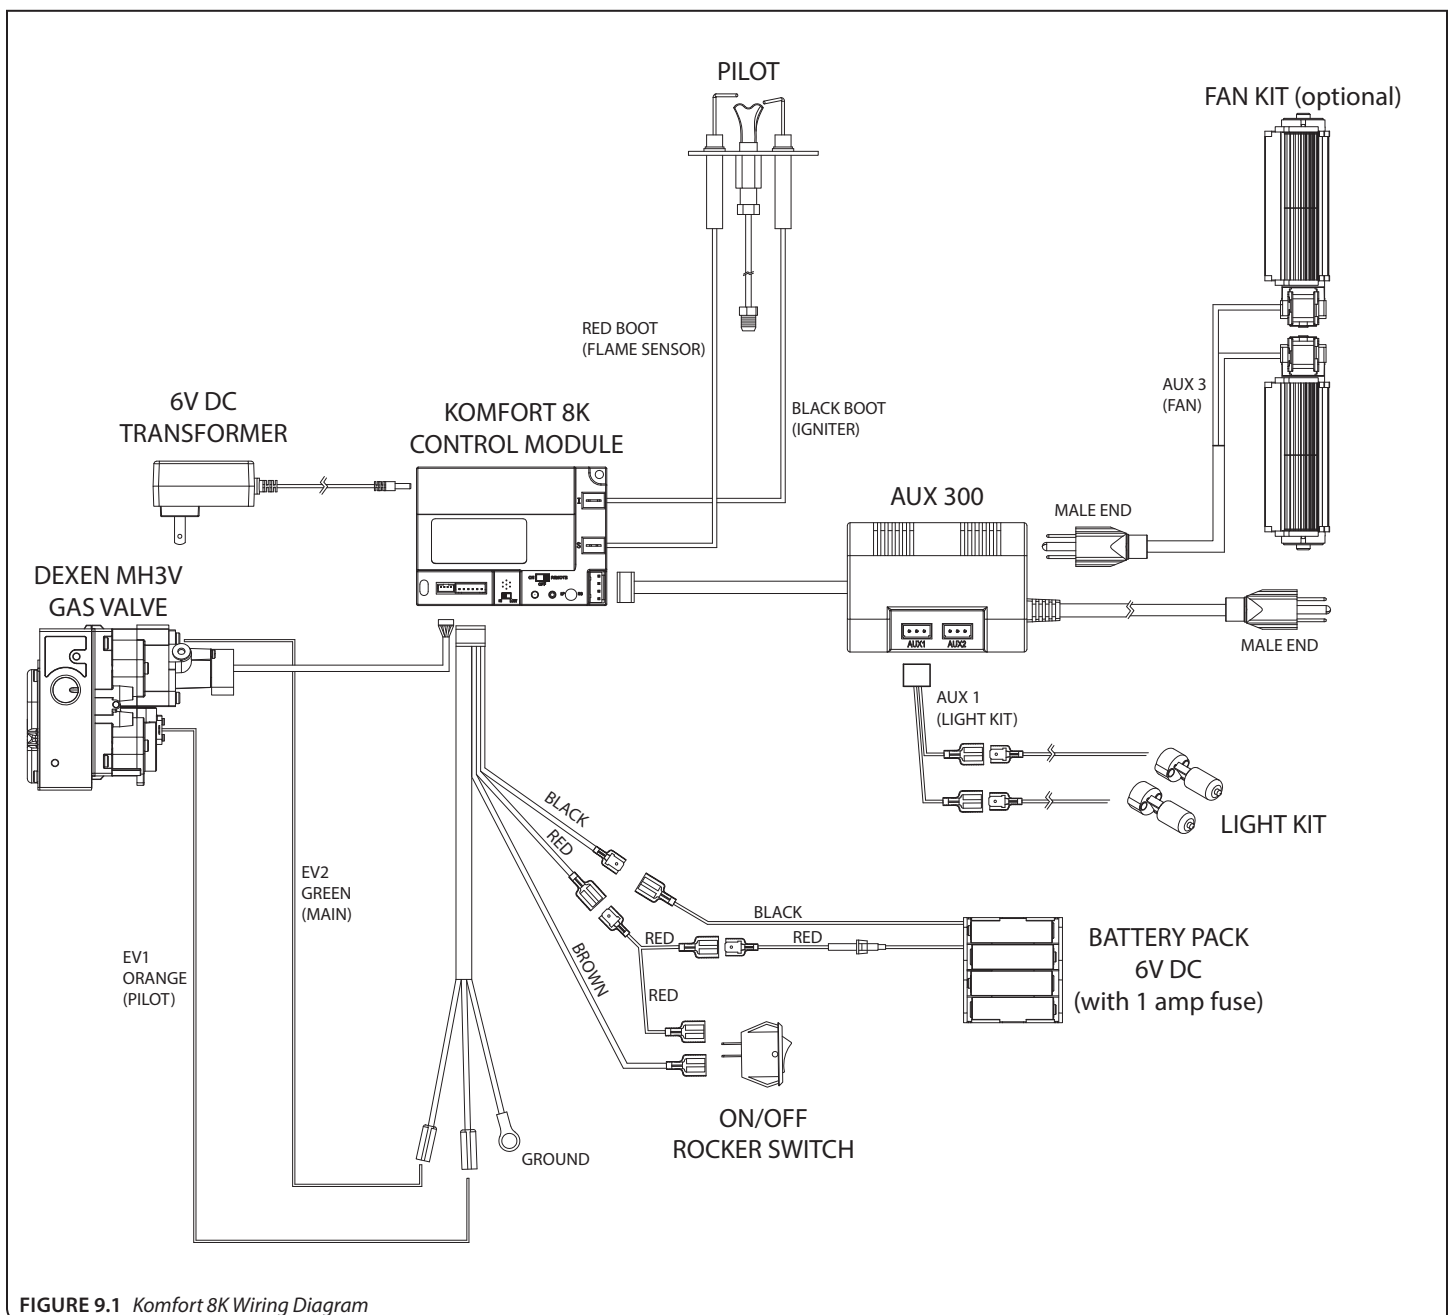

FIGURE 9.1 Komfort 8K Wiring Diagram
The wiring diagram for this appliance is shown in **FIGURE 9.1** below.
9. Plug the fan cord into the AUX3 receptacle on the AUX 300 control module. See FIGURE 9.1 on page 43.
3. Install (3) AAA batteries (included in the components packet) in the remote control battery bay.
5. Connect the fan to the AUX 300 control module **FIGURE 9.1** (page 43).